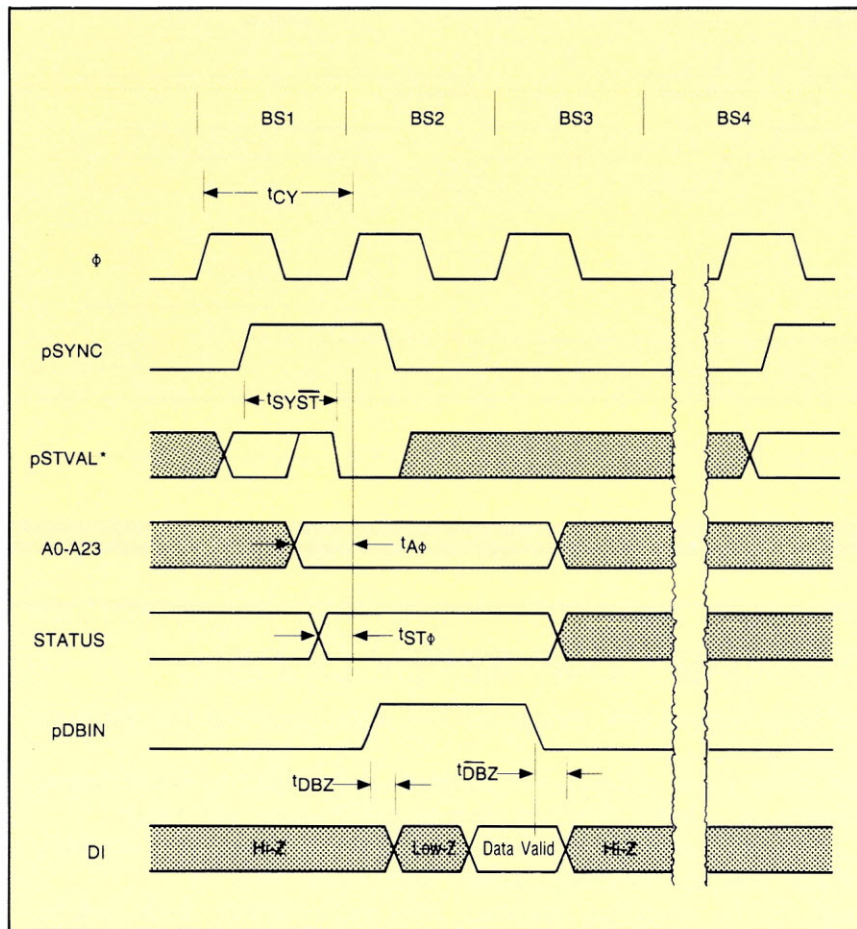

Figure 1. Read Cycle Timing Diagram.
7. Some timing parameters were changed and others were added. Please refer to Figures 1 through 4 for the locations of the timing parameters that were added or changed. These are discussed next.